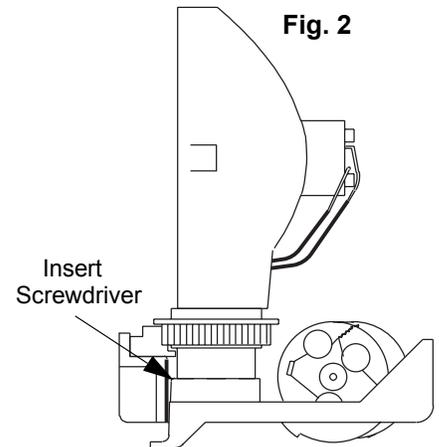

Fig. 2
2. Carefully insert a small, flat blade screwdriver between the reflector gear and the baseplate (Fig.2).